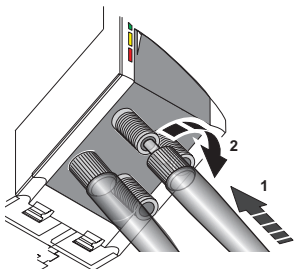

Figure 14 F-SMA connection
- The connectors are secured on the device by manually tightening the screw collar (see 2 in Figure 14).